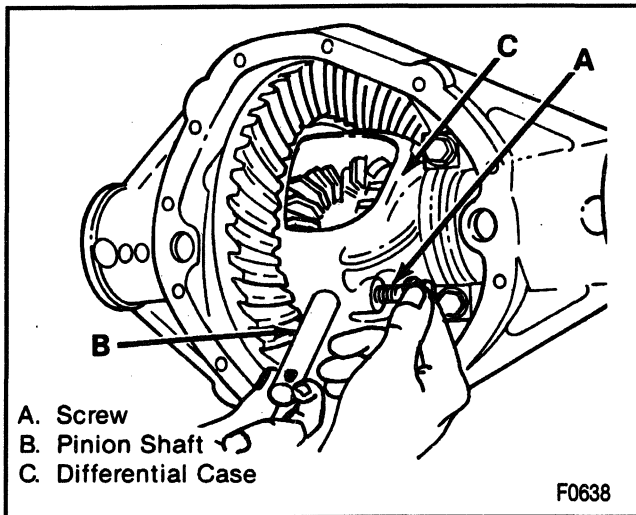

Figure 7—Removing/Installing the Pinion Shaft
- A. Keep the pinion shaft partially withdrawn (Figure 7).